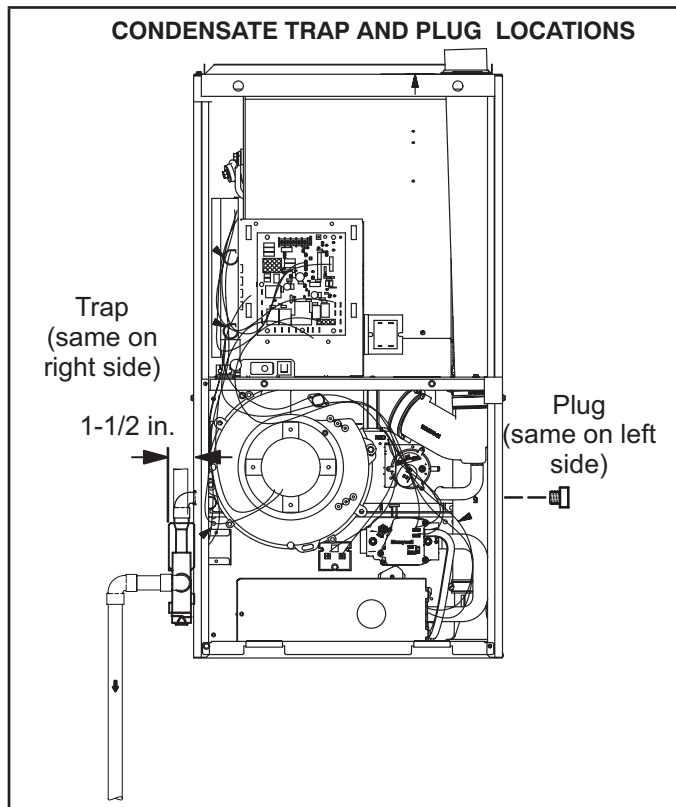

FIGURE 34
This unit is designed for either right- or left-side exit of condensate piping. Refer to figures 34 and 36 and for condensate trap locations.
- 2 - Use a large flat head screw driver or a 1/2" drive socket extension and remove plug (figure 34) from the cold end header box at the appropriate location on the side of the unit. Install provided 3/4 NPT street elbow fitting into cold end header box. Use Teflon tape or appropriate pipe dope